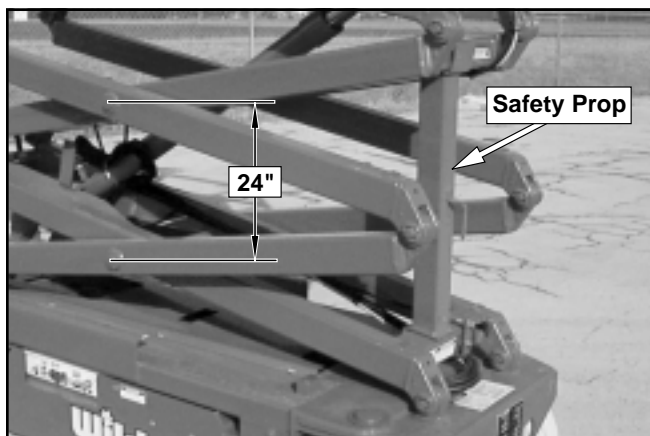

Figure 4.6—Safety Prop
The safety prop (refer to Figure 4.6) is used to support the scissors structure when access to the scissors arm components or the chassis is required. Always use the safety prop when the platform is raised during inspection and maintenance.
2. Using the lower controls, raise the platform until the open height between the arm center pins is approximately 24 (refer to Figure 4.6).